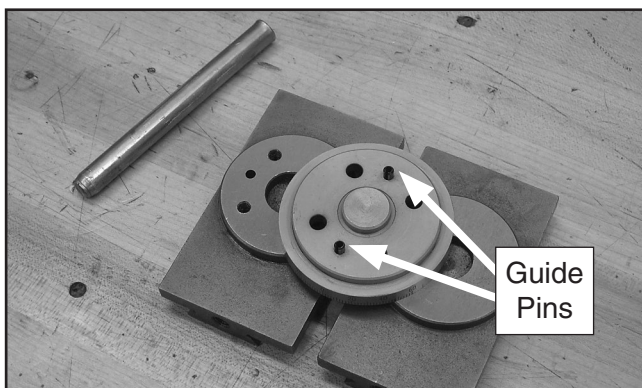

Figure 8. Guide pins.
7. Turn the adapter plate upside down, and use a pin punch and hammer to tap the guide pins out of the adapter plate, as shown in **Figure 8**.